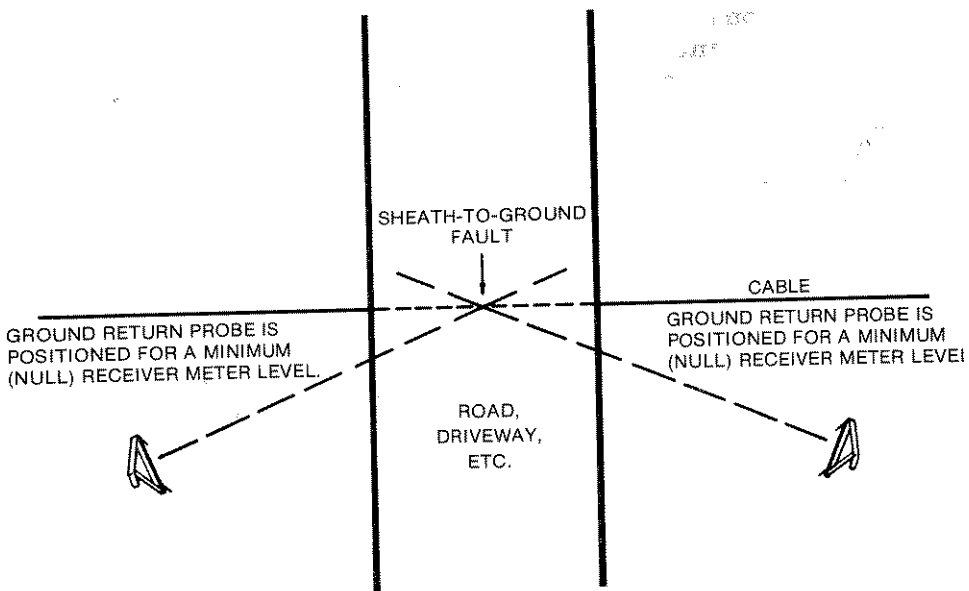

Figure 3-3.
14. If a sheath-to-ground fault is located beneath a hard surface such as a road or driveway, it usually is possible to pinpoint the location using the triangulation method (see Figure 3-3). On one side of the hard surface, rotate the ground return probe and locate the NULL. Draw a line perpendicular (right angle) to the frame of the ground return probe starting at the arrow and toward the cable path. Repeat the process from a second point. The fault is located where the two lines intersect.